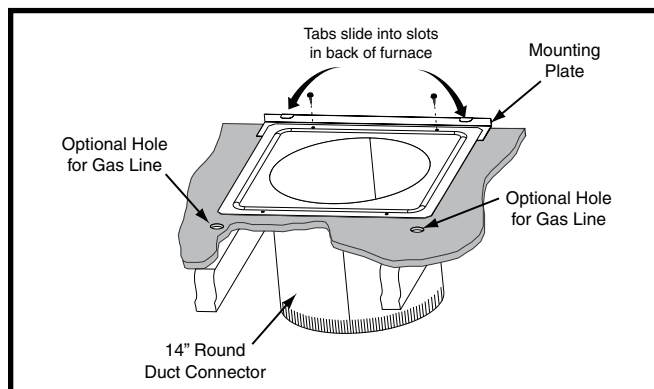

Figure 15. Round Duct Connector
2. Install the mounting plate (Figure 15) under the back side of the duct connector. **NOTE:** Make sure the screw holes are aligned in both components.
4. Secure front with one (1) fastener at each corner (Figures 15 or 16).